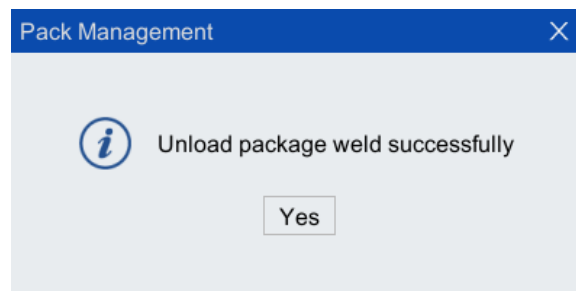

Figure 4-10 "Uninstalled Successfully" dialog box
- Step4. Click the "Yes" button. After the uninstallation is completed, the dialog box shown in Figure 4-10 will pop up. Click "Yes", and the uninstallation of the feature pack will be completed.